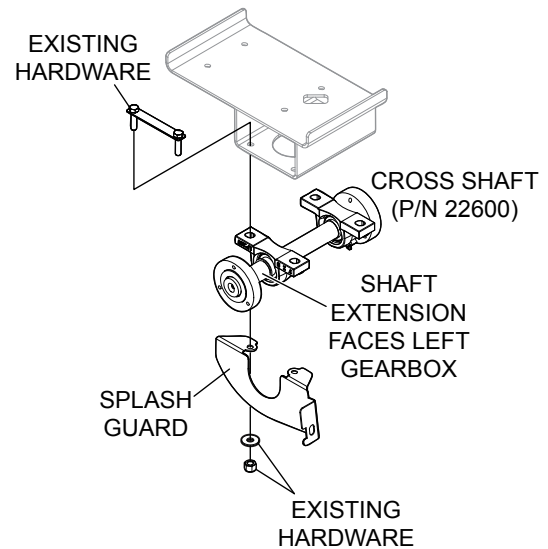

Figure 12. Cross Shaft Installation
- Using a 9/16" socket, install splash guard and **new** cross shaft (Figure 12), P/N 22600, with existing screws, washers and nuts.